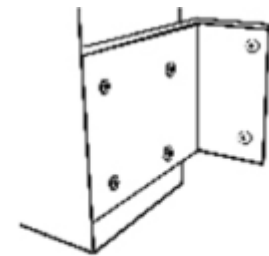

Figure 2. Rack-mount bracket on plywood backing
- 2) Attach the bracket to ¾” or thicker plywood backing using four (4) 1 ½” wood screws as shown in Figure 2. Rack-Mount bracket on plywood backing.